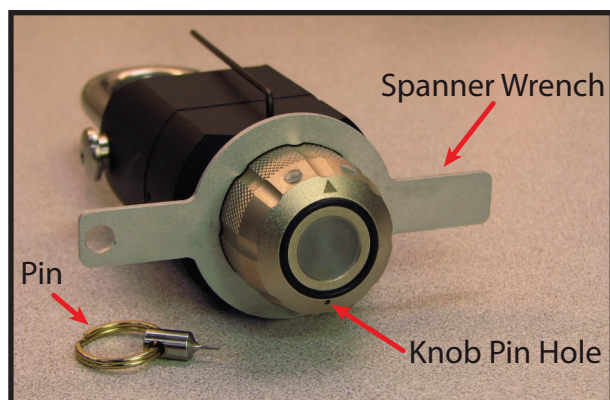

Figure 2: Knob Pin Hole, Pin and Spanner Wrench
- 3.1) Slide the provided spanner wrench over the knob as shown in Figure 2.
- 3.2) While maintaining pressure on the Allen wrench, insert the provided pin into the pin hole on the front face of the knob and push it in until the pin stops. See Figure 2 and 3.